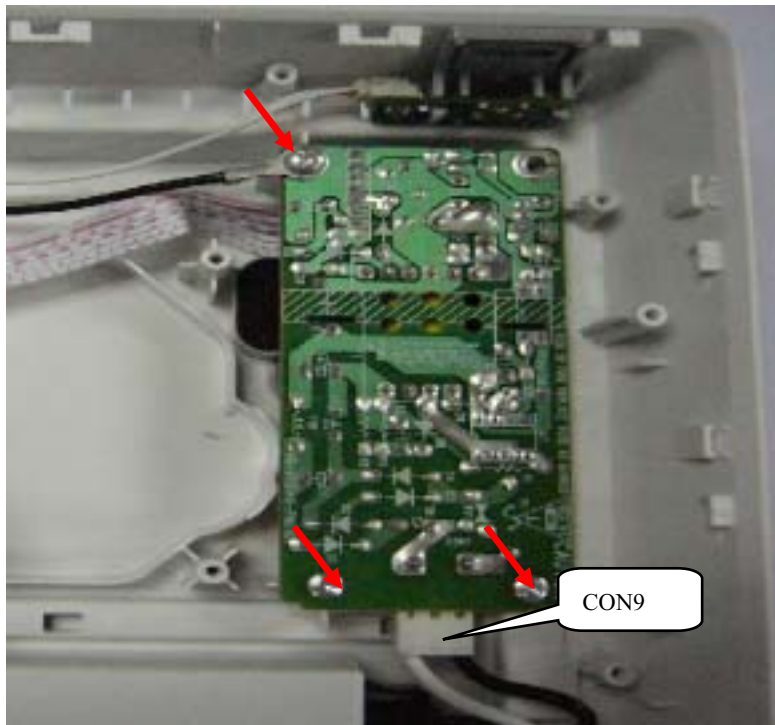

Figure 10
Step7: Dismantling the Power Board. First disconnect the 1 connector, and then remove 3screws around the board. (Figure 10)